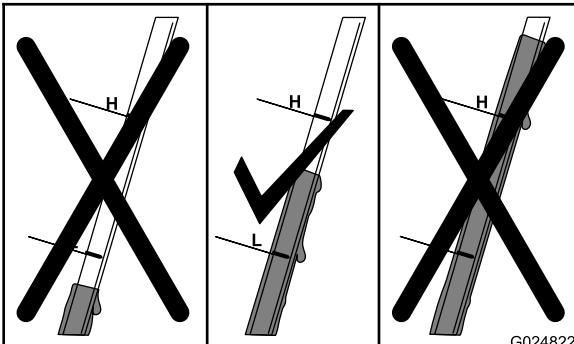

Figure 25
- Read the oil level on the dipstick (Figure 25).